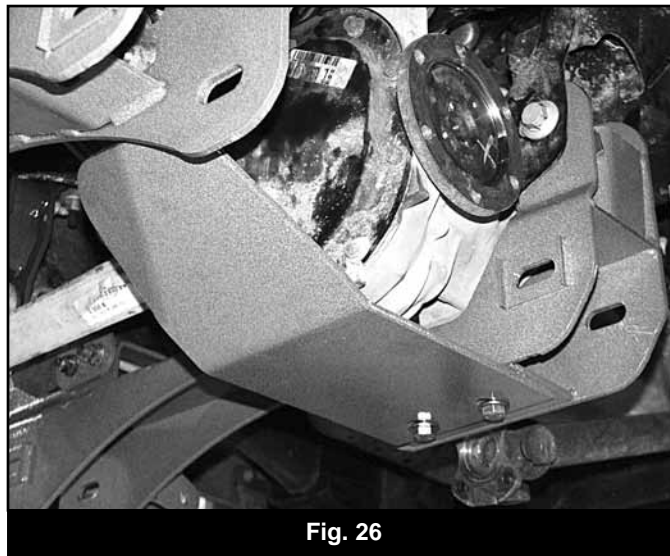

Fig. 26
47. Install the provided differential skid plate to the front and rear crossmembers with  $\frac{1}{2}$ " x 1-1/4" bolts and  $\frac{1}{2}$ " SAE washers (BP #521) into the weld nuts in the crossmembers (Fig 26). Leave hardware loose.